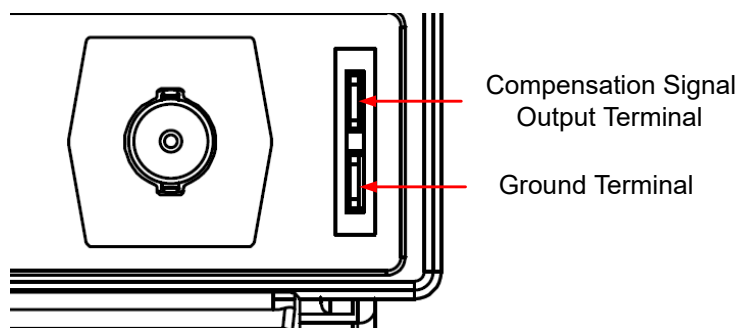

Figure 5.5 Use the Compensation Signal
- Connect the ground alligator clip of the probe to the "Ground Terminal" as shown in *Figure 5.5* below.
- Use the probe to connect the input terminal of CH1 of the oscilloscope and "Compensation Signal Output Terminal" shown in *Figure 5.5*.